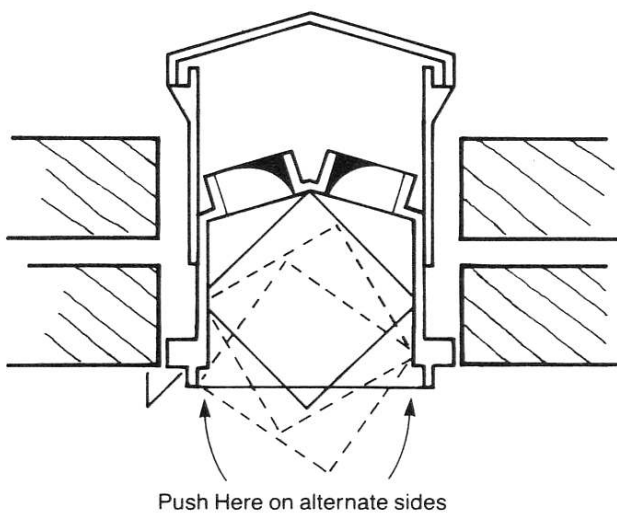

Fig. 8
16. Fit the heat exchanger into the casing of the unit. Pressing lightly on alternative side legs, "walk" the heat exchanger firmly into place (see Fig. 8).